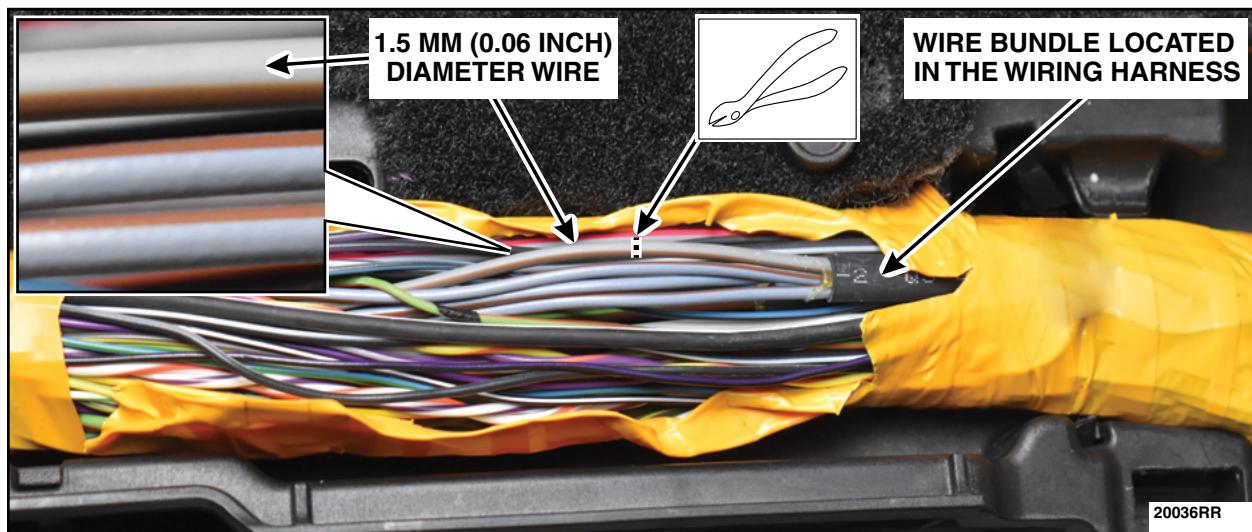

FIGURE 49
67. Locate the wire bundle within the wiring harness. Using a Vernier Caliper tool, measure all 3 Grey-Brown (GY-BN) wires and isolate the 1.5 mm (0.06 inch) wire within the bundle. This is the largest wire within the bundle. See Figure 49. Cut the 1.5 mm (0.06 inch) wire. Test the vehicles door locks. If the door locks work, the correct wire has been cut. If the door locks do not work, repair the wire and repeat Step 67.